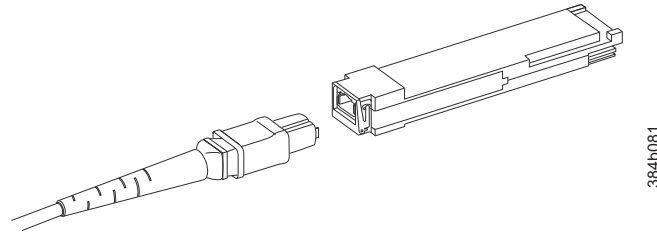
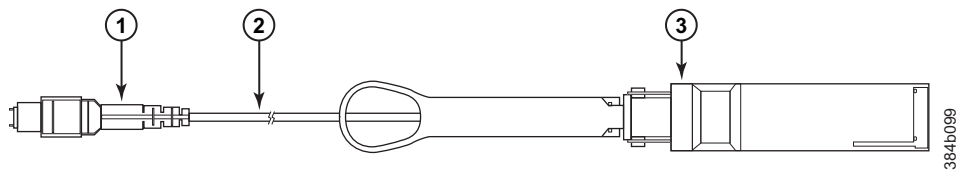

Figure 45. MTP cable and transceiver
Figure 46. 2 km QSFP with integrated cable
Figure 45 on page 116 and Figure 46 on page 116 illustrate two types of MTP cables and transceivers.
Figure 45 on page 116 shows a separate MTP cable and transceiver. The transceiver inserts into the blade port connector and the cable plugs into a QSFP on the other end of the ICL.
Figure 46 shows a 2 km LWL QSFP transceiver with integrated MTP cable. The transceiver inserts into the blade port connector and the integrated cable plugs into: a QSFP on the other end of the ICL, a patch panel, or a patch cable.
A third type of transceiver (not illustrated) has a pull-tab to aid in removing the transceiver from the port connector (similar to the transceiver portion **3** of Figure 46), but has a separate MTP cable that plugs into the transceiver.
- An off-the-shelf MTP cable up to 100 meters can be used as an ICL cable when using the standard SWL optics. The 2 km QSFP with LWL optics (see Figure 46 on page 116) has an integrated 3 meter single-mode pigtail with a male MTP connector for connectivity to a patch panel or female terminated MTP patch cable to achieve up to 2 km distances. See "Using Brocade 2 km LWL QSFPs" on page 123 for more information.
See “Installing a QSFP transceiver and cable” on page 117 for installing the QSFP transceivers. Depending upon the type, the transceivers and cables are either separate or integrated into a single unit. Figure 45 on page 116 and Figure 46 on page 116 show two different types of QSFP transceivers.
- Figure 45 on page 116 shows a separate MTP cable and transceiver. The transceiver inserts into the blade port connector and the cable plugs into a QSFP on the other end of the ICL.
- Figure 46 on page 116 shows a 2 km LWL QSFP transceiver with integrated MTP cable. The transceiver inserts into the blade port connector and the integrated cable plugs into: a QSFP on the other end of the ICL, a patch panel, or a patch cable.
The Brocade 2 km LWL QSFP (see Figure 46 on page 116) is a hot-swappable, low-voltage (3.3 V) digital diagnostic optical transceiver that supports high-speed serial links over parallel single-mode optical fibers at signaling rates up to 4×14.025 Gbps. The QSFP is integrated with a 3-meter ribbon fiber cable with a male MTP 1 x 12 connector. The QSFP supports 2 km link length on parallel single-mode fiber.
- Connect the 3 meter integrated single mode transceiver cable (Figure 46 on page 116) directly to key-up/key-up MPO/MTP female couplers in a patch panel or MTP female connectors on a patch cable.